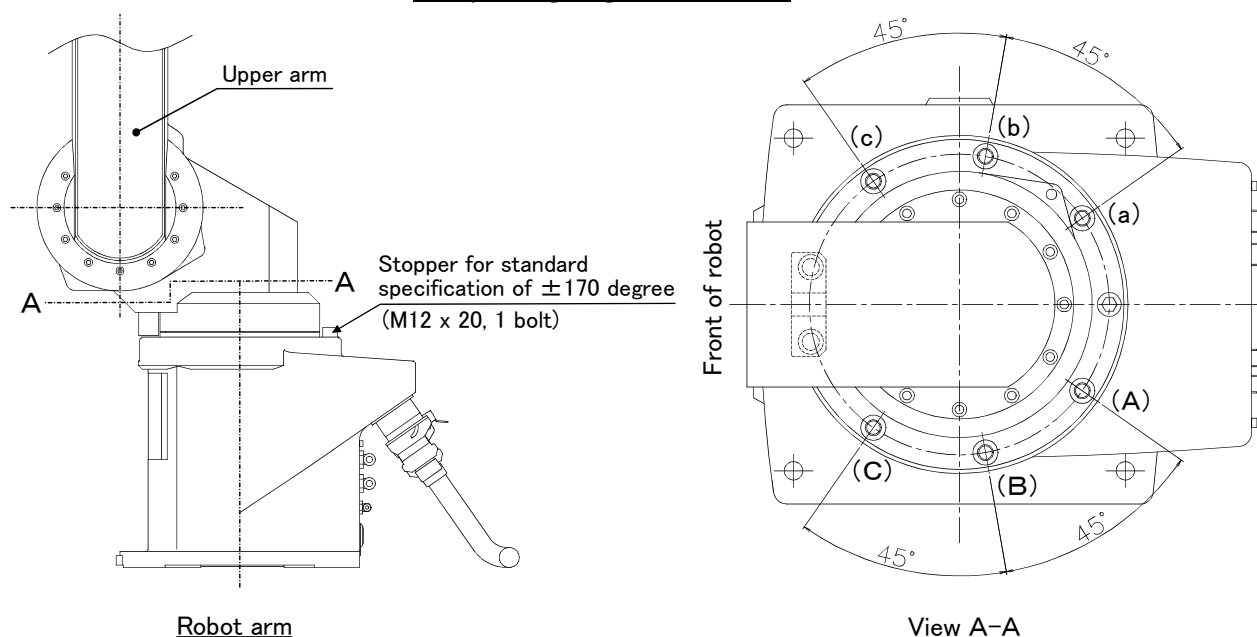

Fig.3-2 : Installation of operating range change option
Note) The insertion position given in the table indicates the insertion position for the operating range change stopper. (Refer to Fig. 3-2.)
- 1) Move the upper arm to the posture as shown in Fig. 3-2 by jog operation.
- 3) By referring to Table 3-2 and Fig. 3-2, insert the two stoppers (M12 x 20) used to change the movement range of J1 axis at the angular position to be changed, and fix securely by applying a clamping torque of 120 N · m to 150 N · m.
CAUTION Do not remove the stopper for the standard specification of ± 170 degree shown in Fig. 3-2.